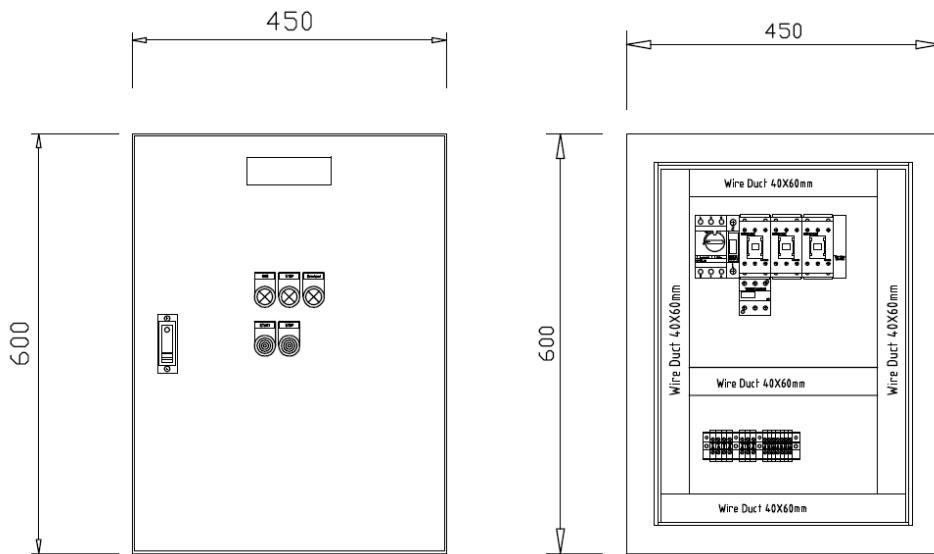

Figure 1.1 Front views and w/o front cover of Star-Delta motor starter.
1. Study the installation equipments ,drawing (panel, wire duct, din rail) and install all the equipments on the panel by mounting on the plate (follow by panel layout) as shown in figure 1.1